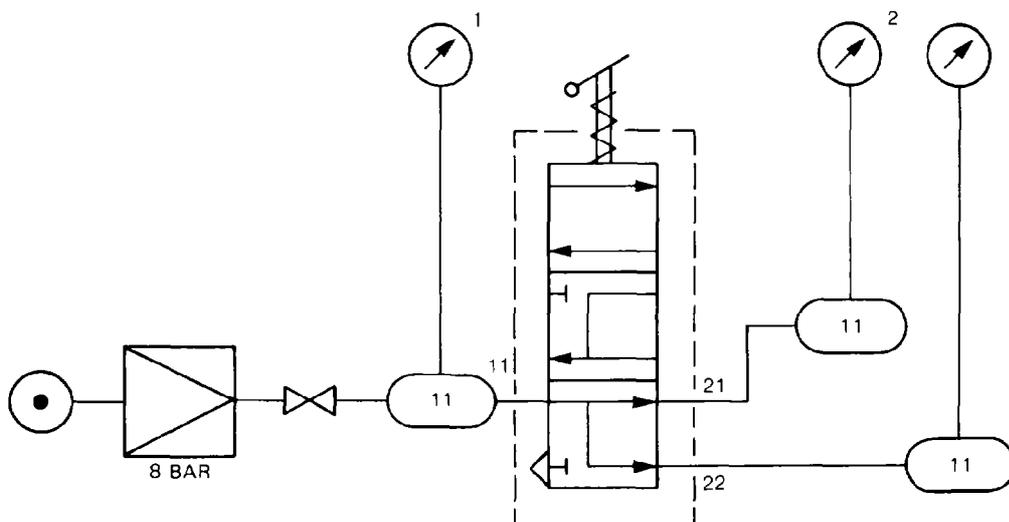

Figure 112 Test Connections
- a. Connect the valve to a pressure source via an 8.0 bar pressure limiter and with pressure gauges and a stopcock as shown in Fig 112.